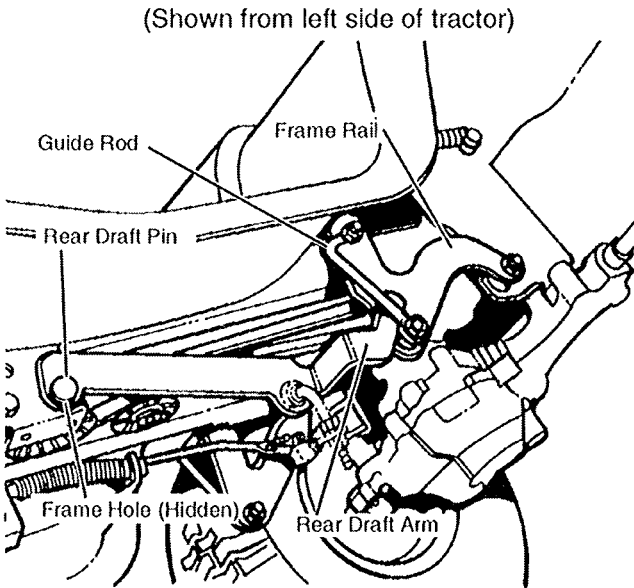

FIG. 9
INSTALLING 46-in. MOWER DECK (See Fig. 9 — 13)
- Position the deck so the rear draft arms are between the gold colored guide rods and the frame rails on the outboard side. (See Fig. 9)
- Lift the mower deck. Place 2 in. blocks under the edges of the deck enabling you to align the holes in the front of the rear draft brackets with the holes in the frame. (See Fig. 9)